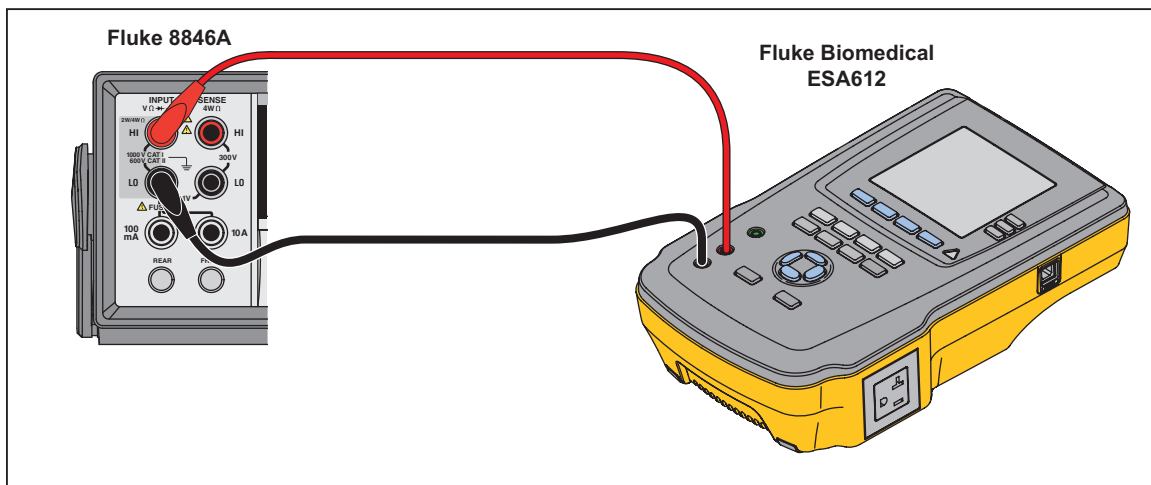

Figure 3-13. DC Leakage Verification Connections
1. Connect the red and black jacks to the Input (+) and Input (-) jacks of the DMM and set the DMM for 1-k Ω range as shown in Figure 3-13.